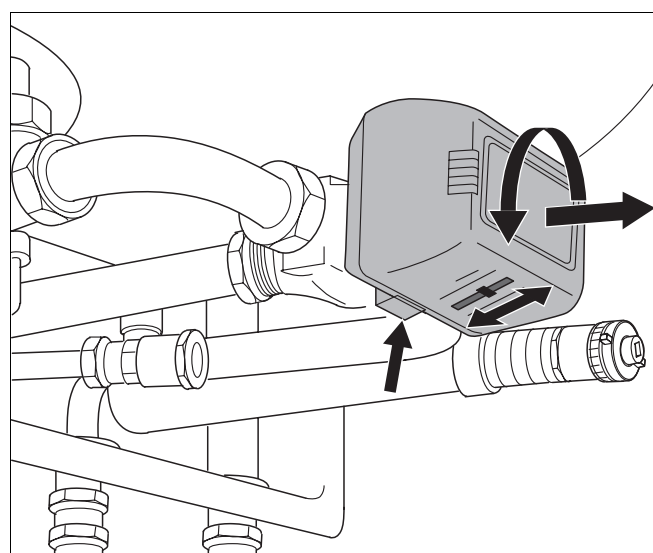

fig. 85 Checking the three-way valve for correct activation
- Push in catch on regulating motor and remove bayonet connector by twisting anticlockwise (fig. 85).